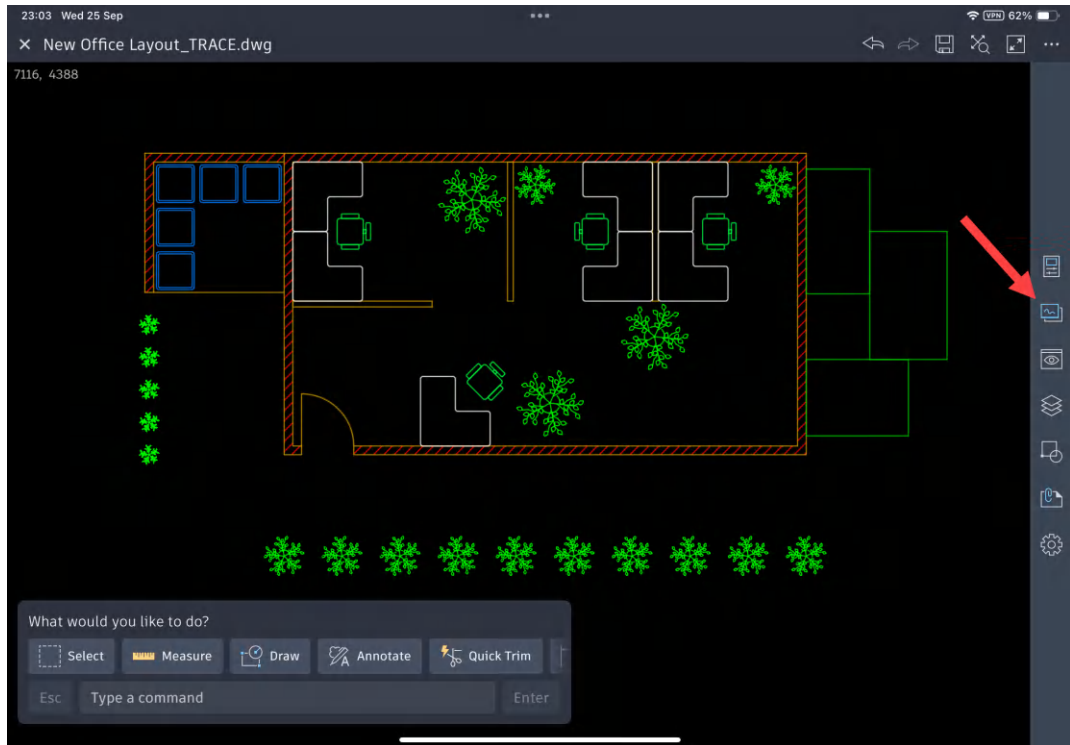

Figure 16.15: The drawing opens in the AutoCAD mobile application with the traces icon arrowed
4. Click on the New Office Layout\_TRACE.dwg file, which will open in the AutoCAD mobile application, as shown in *Figure 16.15*. The traces icon is shown arrowed on the right.
12. Using the **X** symbol on the **Trace** toolbar, you can now close the **Trace** toolbar and exit trace mode. You will then return to the drawing. If the **Traces** panel does not close, click the traces icon, as previously shown in *Figure 16.15*.